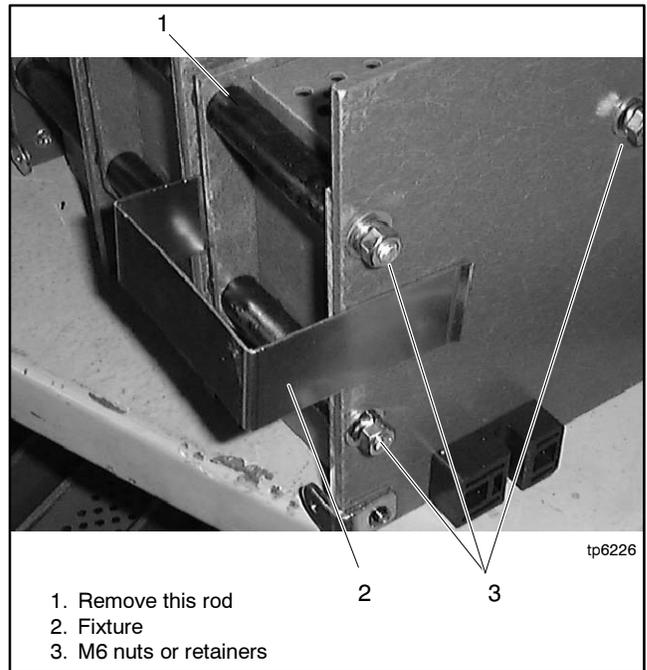

Figure 6-39 Fixture or Clamp, 600 Amp Models
2. Attach a clamp or fixture similar to the one shown in Figure 6-39.
3. Loosen the M6 nuts or remove the retainers. See Figure 6-39.
4. Remove the upper rod shown in Figure 6-39.